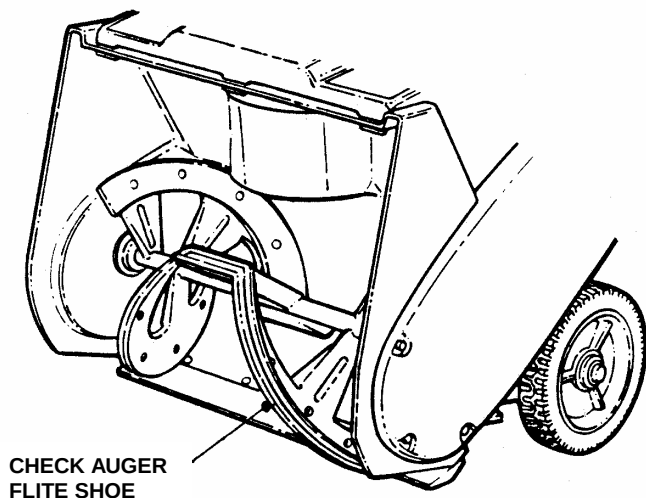

FIGURE 4.2
1. Visually check flite shoes for cracking, fraying severed or exposed belt strands. Replace worn flite shoes before operating snow thrower. See Figure 4.2.